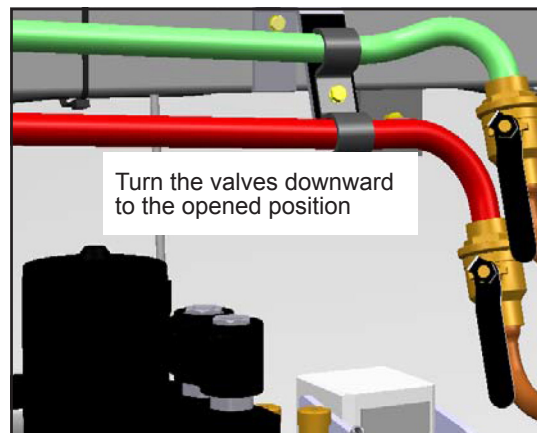

Figure 4 - Coolant Valve in Open Position
- 1.12. Turn the coolant valves downward on the IN and OUT pipe to the open position (see Figure 4).